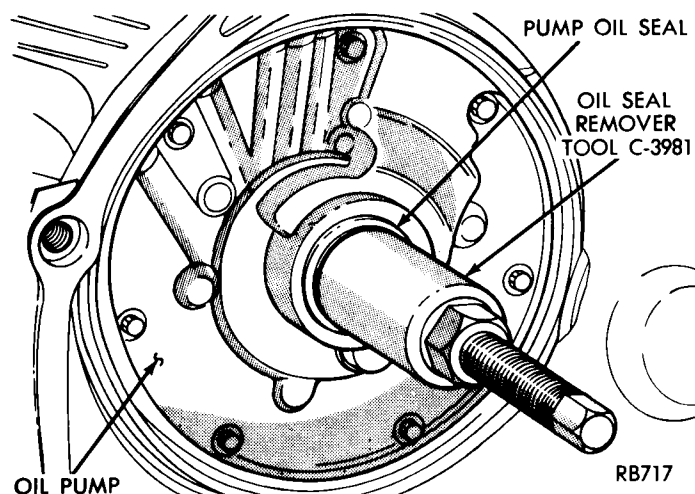

Fig. 1. Remove Pump Oil Seal
(1) Screw seal remover Tool C-3981 into seal (Fig. 1), then tighten screw portion of tool to withdraw the seal.